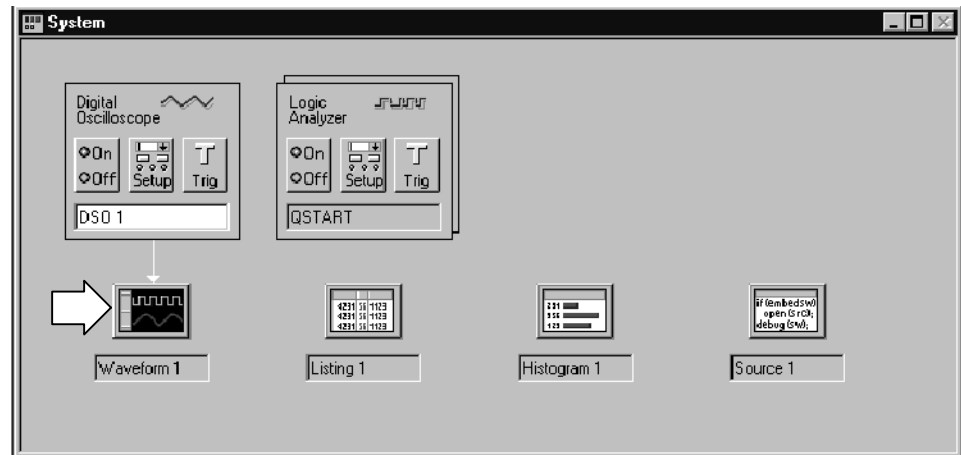

**Figure 3-2: Opening a Waveform window from the System window**
- To open a data window from the System window, click the data window button. See Figure 3-2.